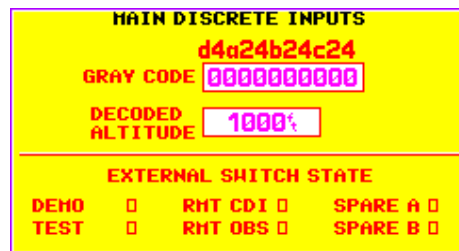

Figure 5-11. Main Discrete Inputs Test Page
2. Monitor the test results via the Main Discrete Inputs Test Page (Figure 5-11).